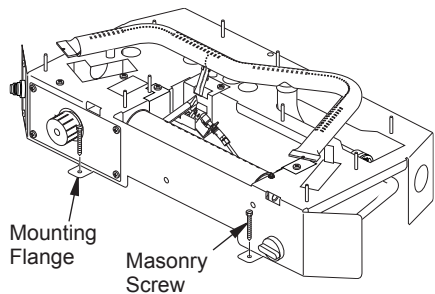

Figure 11 - Attaching Base Assembly to Fireplace Floor
7. Mark screw locations through one hole on each side of the mounting bracket (see Figure 11). If installing in a brick-bottom fireplace, mark screw locations in mortar joint of bricks.